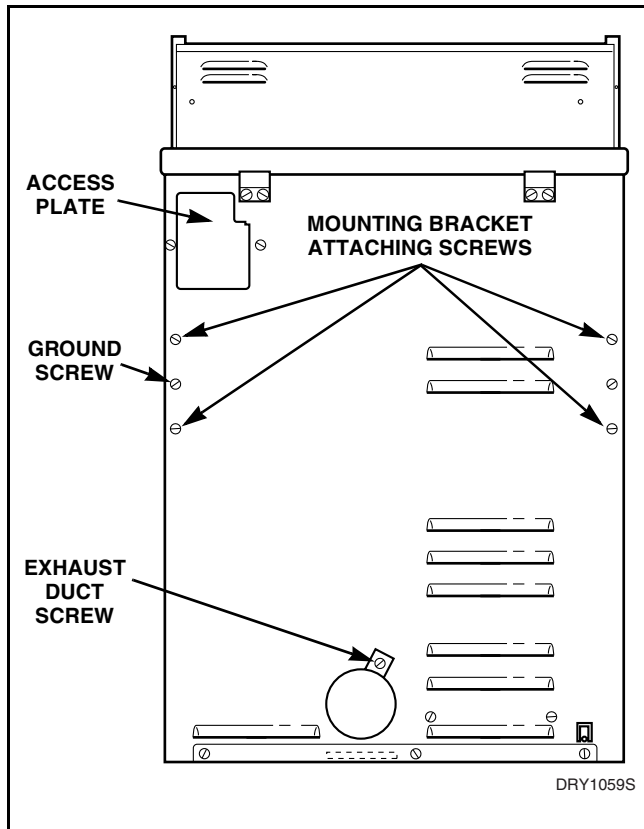

Figure 26
- Remove screw holding bracket on exhaust duct to rear of cabinet. Refer to *Figure 26*.